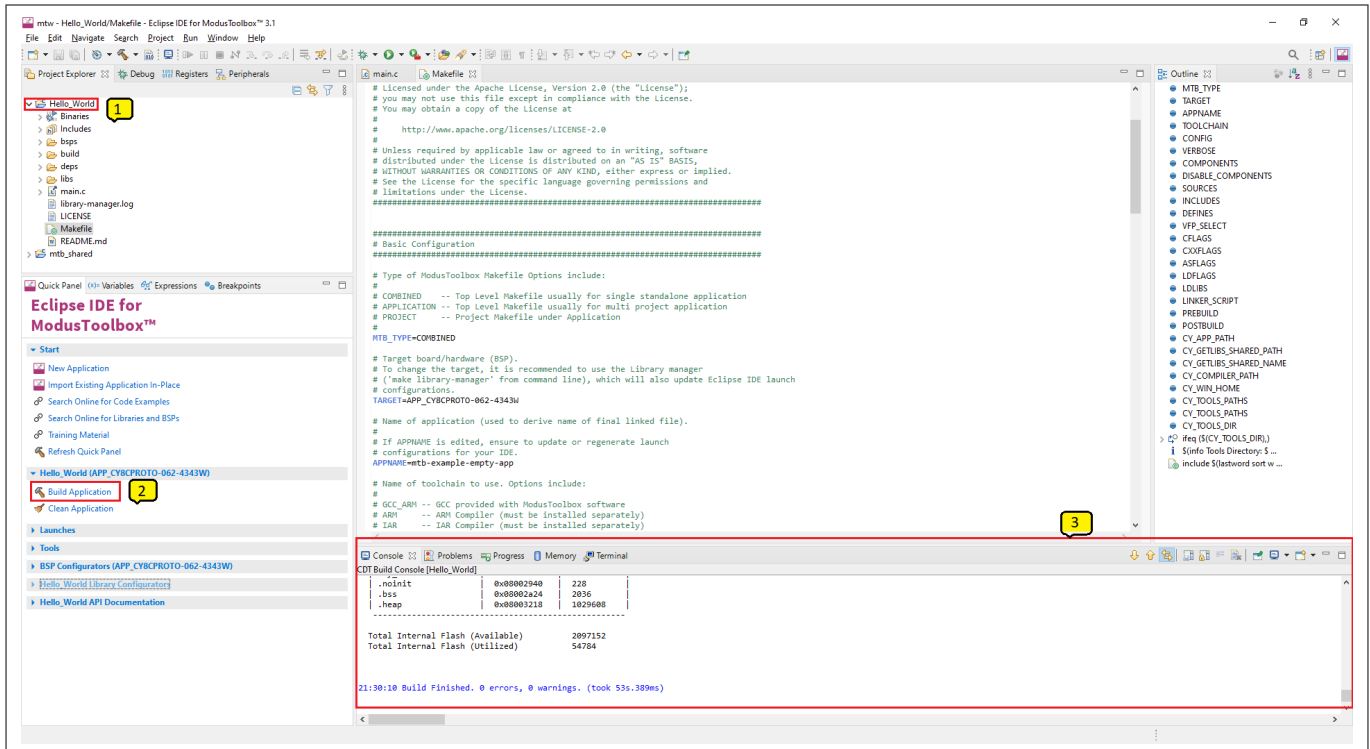

Figure 13 Build the application
3. The **Console view** lists the results of the build operation, as Figure 13 shows.